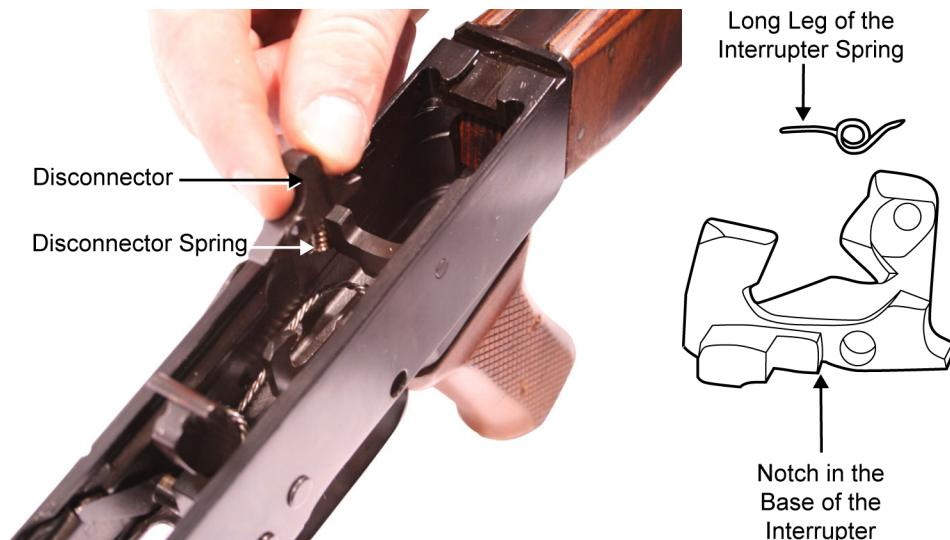

Figure 17. Removing the Disconnector and Disconnector Spring. The Interrupter and Interrupter Spring Removed.
- d. Remove the disconnector and disconnector spring. (If present, remove the interrupter and interrupter spring.) Refer to Figure 17.